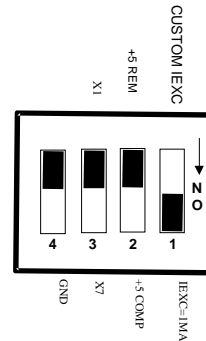

Figure 5-2. Second Stage Gain Switch Location
Switch #3 on the S2 DIP switch block (Figure 5-2) is labeled X1 and X7. Setting this switch down (ON) will amplify the output of the first stage amplifier by 7. The factory default position (up) has a gain of 1 (unity).